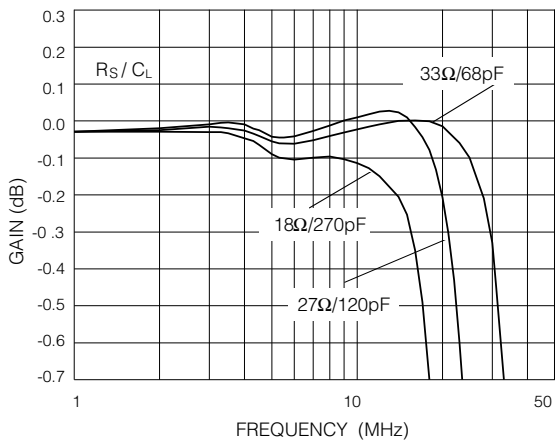
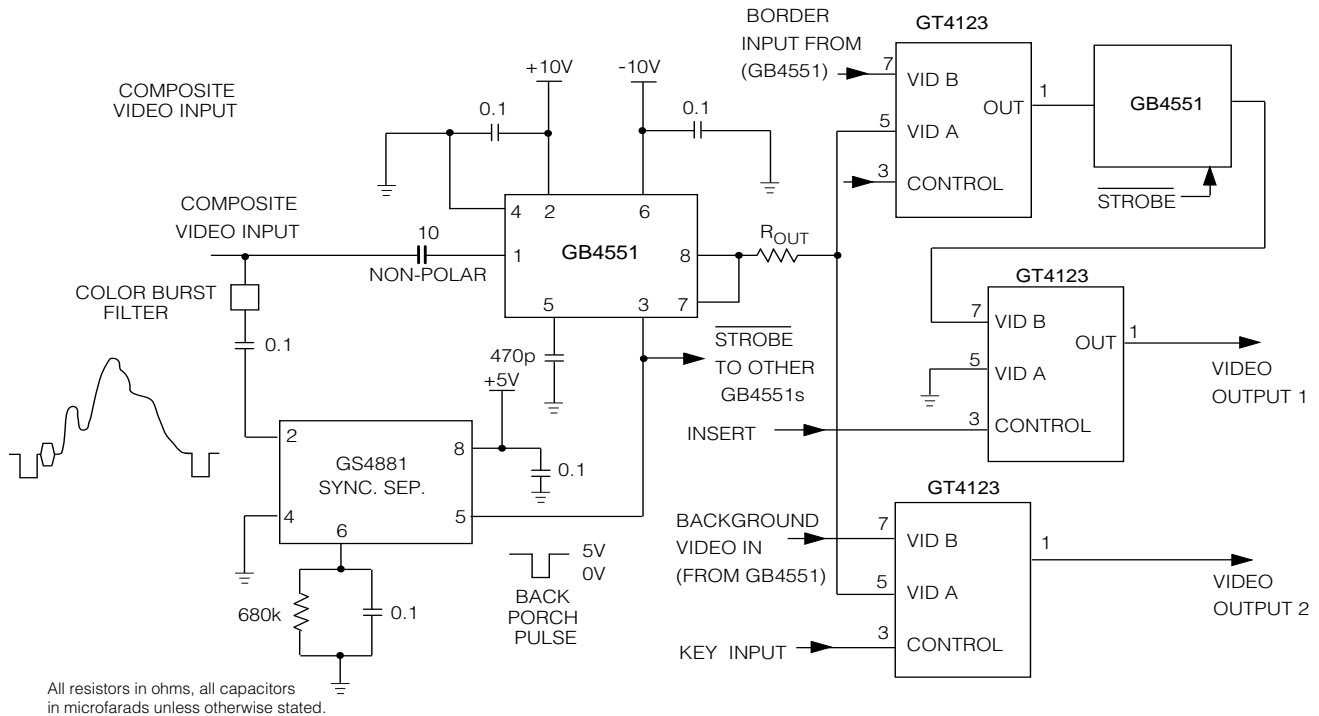

Fig. 5 Flattened Frequency Response
Fig. 7 GB4551 Driving Several GT4123 Video Mixers
**Note: 1.** The frequency peaking can be flattened by placing a small value series resistor at the GB4551 output. The value of the resistor will depend on the load capacitance and the amount of flattening required. Figure 5 shows the frequency response for three combinations of  $R_S$  and  $C_L$ .
Optimal frequency response for the GB4551 occurs with load capacitances in the range of 80 pF. For smaller loads, an external capacitor can be added to extend the bandwidth of the device. As shown in Figure 7, a small resistor, ROUT, should be included in series with the GB4551 output to obtain optimal response flatness. The value of this resistor should be chosen to match the value of the load capacitance, as shown in Figure 5.